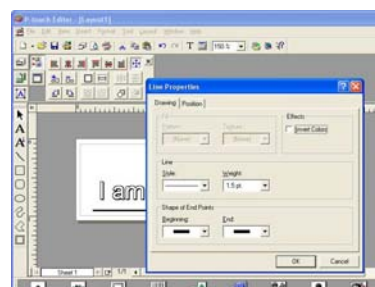

figure 15
- 2 On the Drawing tab, select the line style and/or weight, and then click the OK button (see figure 15).